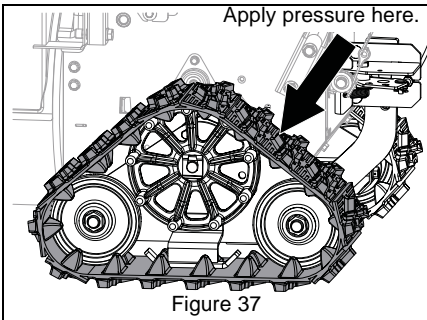

Figure 37
1. Check tension by applying pressure to track between the upper and rear track rollers. Deflection should be approximately 9.5 mm (3/8"). See Figure 37.